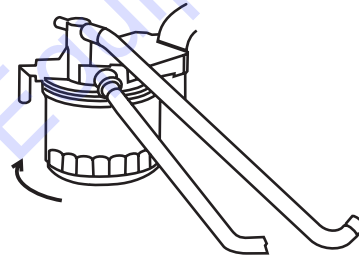

Figure 25. Fuel Filter Removal
- Replace the engine fuel filter (Figure 25) every 500 hours. Refer to your engine manual for specific details to perform this operation.